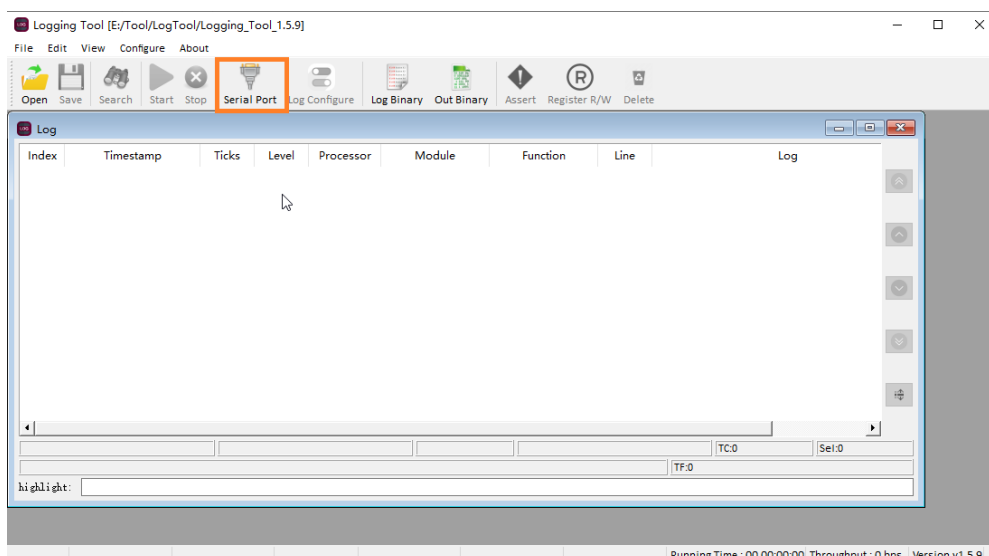

Figure 23. Serial Port button
- 2) Click the **Serial port** button as shown in Figure 23.